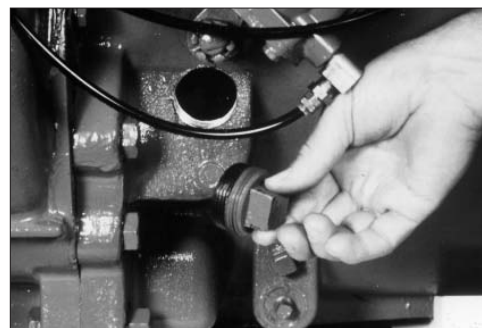

Fig. 16
1. Remove the filler plug from the transmission and add recommended transmission lubricant to the level prescribed by the transmission or truck manufacturer (**Fig. 16**).